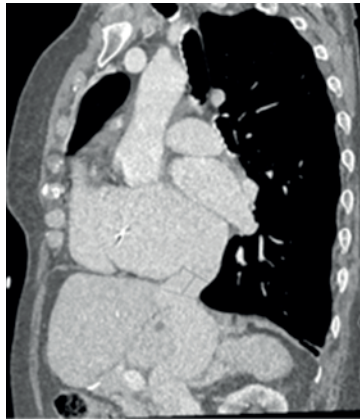

Figure 10: Trace length at center of vein
3. Use the software to measure the distance between different planes of measurement. If the IVC presents angulation or tortuosity, use the open polygon tool to trace the length at the center of vein. The lengths between junction of IVC to RA and top of hepatic veins is fundamental to implantation planning (Figure 10).